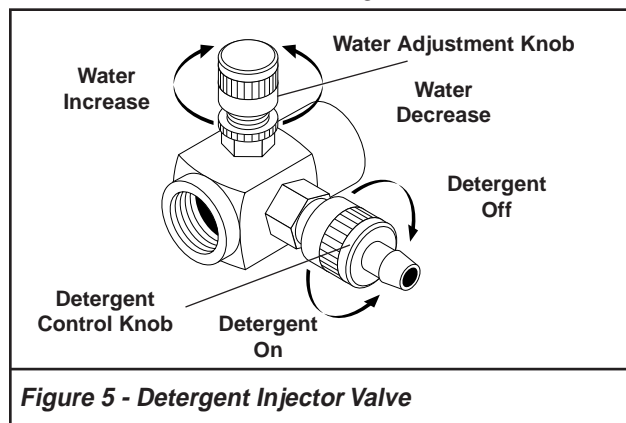

Figure 5 - Detergent Injector Valve
3. Start the detergent suction by rotating the water adjustment knob of the detergent injector valve. See **Figure 5**. Turning the knob counterclockwise will pull detergent into the system. The flow may be observed.